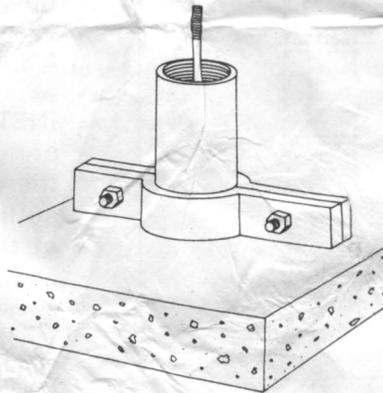

FIG. 3
**CAUTION:** Use tapered thread pipe on suction only. Column sections have butt joint thread. Place a pipe clamp near top of the bowls and, using an installation rig, lower the bowls into the well until the pipe clamp rests on the well casing or other support. See Figure 3. Install a shaft coupling on the bowl shaft.